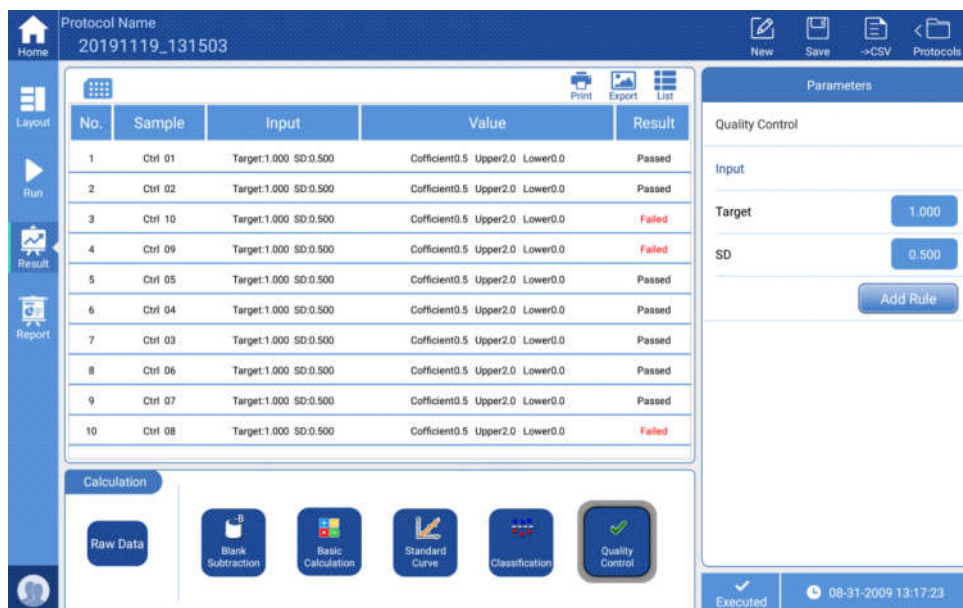

Fig 16
- Quality Control: Click “Quality Control” button, the interface will turn to Fig 16, the main display area will turn out to be a list, it displays status of the quality control well which set previously, instrument will mark according to conditions set in “Parameters”.
Choose the well to view the kinetic curve, “Graph” button can enlarge the curve, see Fig 16, “Back” is for graphic main interface.